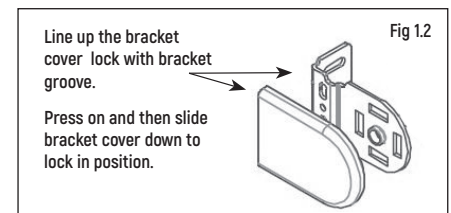

Fig 1.2
4. If the blind is installed on a window frame face, the bracket covers can be slipped on over the brackets (Fig 1.2). If the blind is installed inside the window frame, covers are not used.